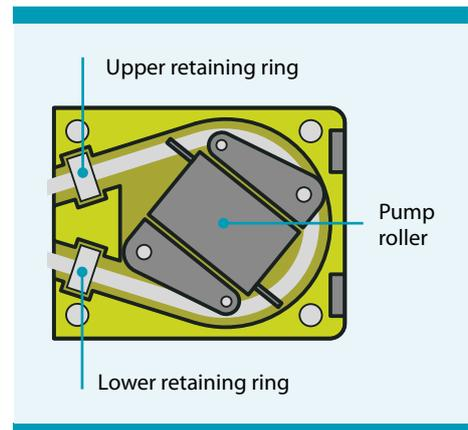

Figure 7.7: Load pump tubing
2. Insert the upper retaining ring on the pump tubing into the retaining ring groove on the pump housing (see Figure 7.7).